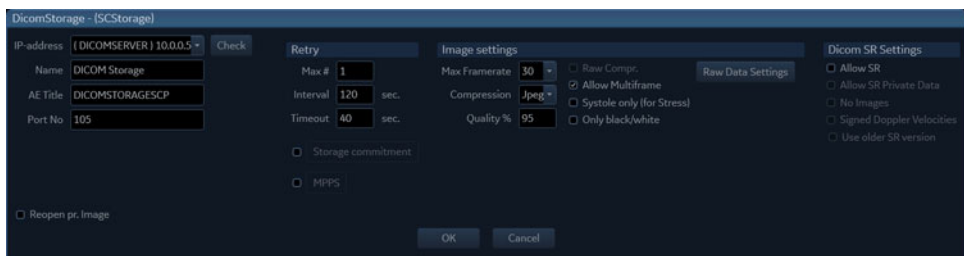

Figure 12-30. DICOM storage properties window
The *Properties* window for the selected DICOM device is displayed (Figure 12-30).
6. When configuring the DICOM storage device, the following image settings are recommended to enter in the *Properties* window (Figure 12-30):
2. Select the **Connectivity** category and **Dataflow** subgroup. The *Dataflow* sheet is displayed (see Figure 12-30).